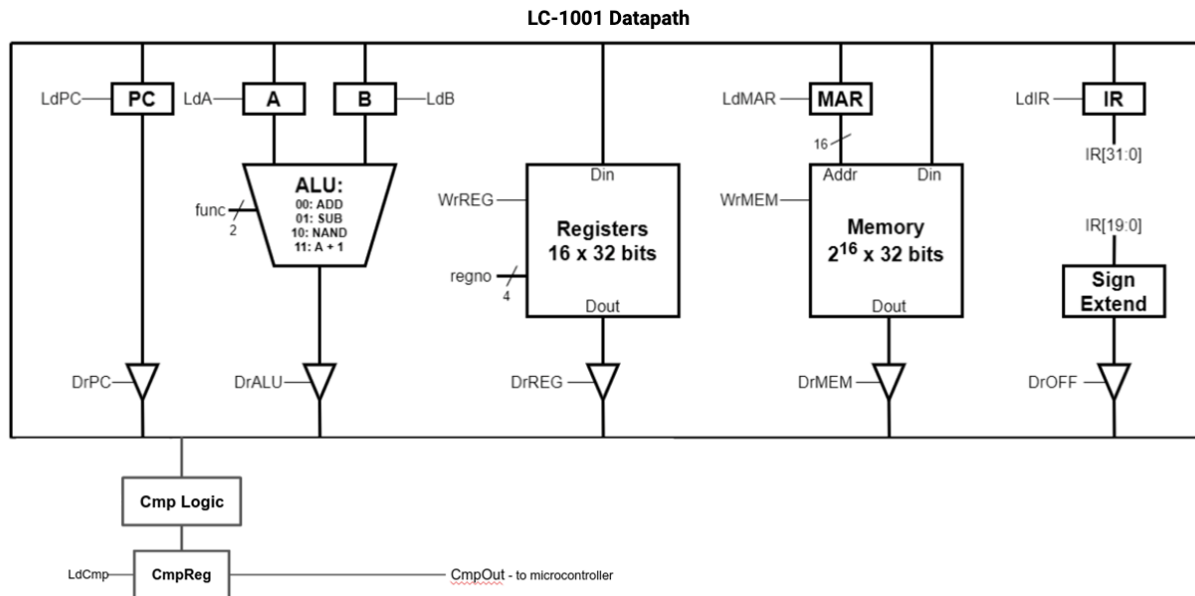

Figure 1: Datapath for the LC-1001 Processor
2. Using CircuitSim, implement the LC-1001 datapath. To do this, you will need to use the details of the LC-1001 datapath defined in Appendix A: LC-1001 Instruction Set Architecture. You should model your datapath on Figure 1.
The “comparison logic” box in Figure 1 is responsible for performing the comparison logic associated with the BLT, BGT, and BEQ instructions. The comparison logic should read the current value on the bus. When executing BLT, BGT, and BEQ, you should compute $A - B$ using the ALU. While this result of the ALU is being driven on the bus, the comparison logic should read the result $A - B$ and output a single “true” or “false” bit for either the condition $A > B$, $A < B$, or $A == B$ depending on the instruction being executed.
2. Implement the Microcontrol Unit using CircuitSim. The appendix contains all of the necessary information. Take note that the input and output signals on the schematics directly match the signals marked in the LC-1001 datapath schematic (see Figure 1).
3. Connect the completed control unit to the datapath you implemented in Phase 1. Using Figures 1 and 2, connect the control signals to their appropriate spots.